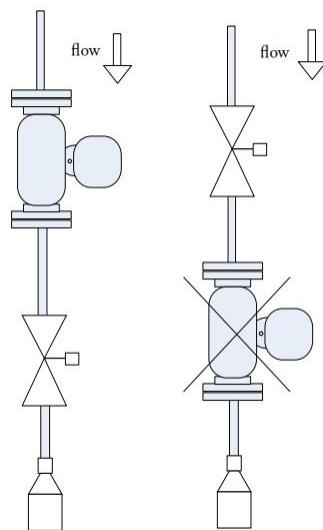

FIG. 8
- e. Do not install measuring equipment in the pipeline downstream of the filling valve. When the measuring equipment is completely empty, the measured value will be severely distorted, as shown in Figure 8.